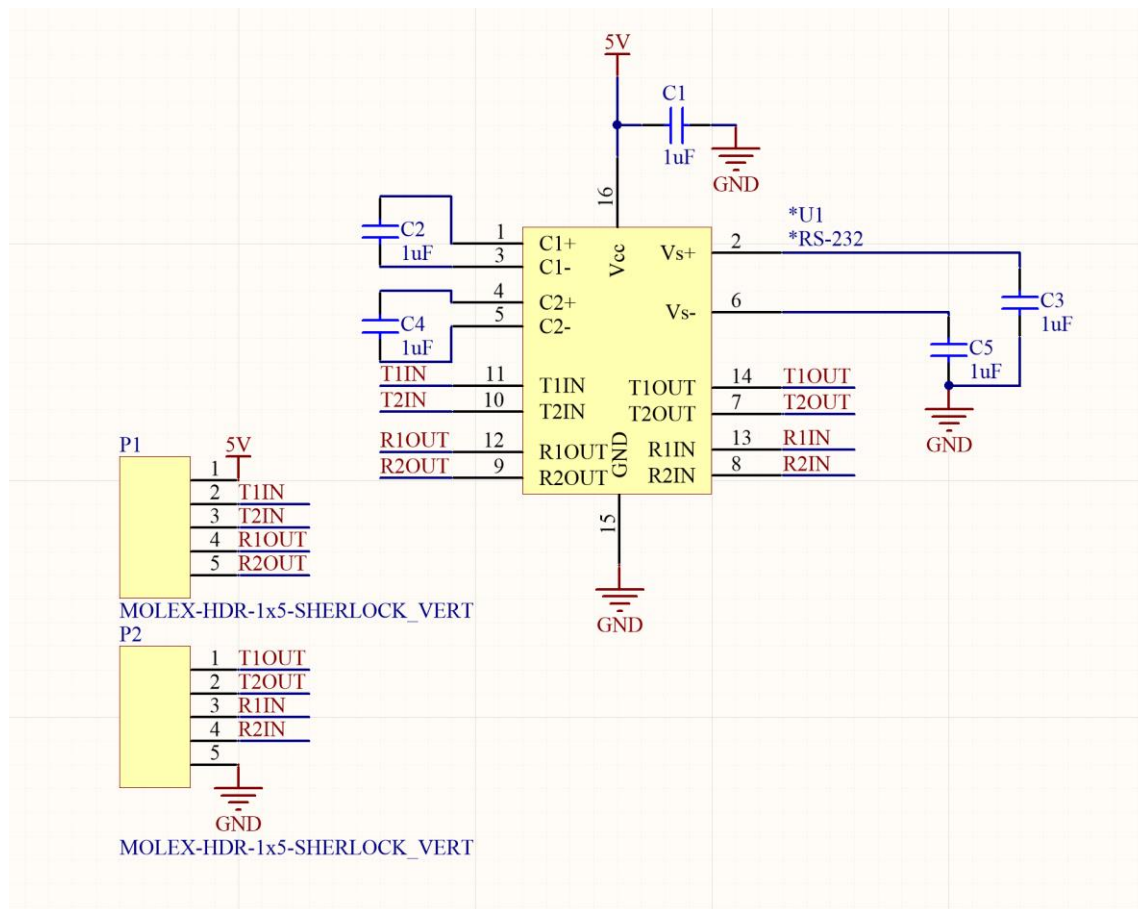

Figure 20: Completed Schematic Design
39. Now we're done! You've successfully designed your first schematic in Altium. If you did everything properly your schematic should look similar to Figure 20.